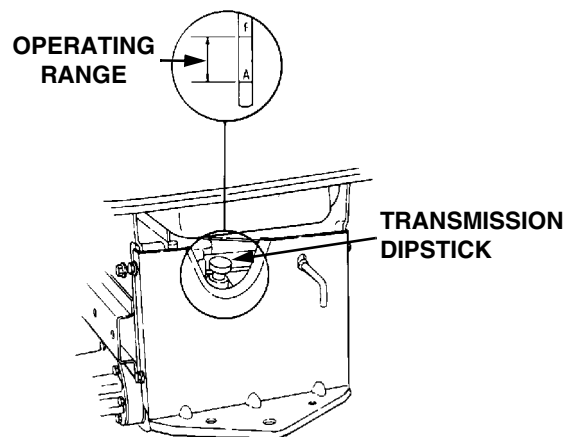

Figure 21
Check the oil level of the transmission case before each use to see that it is filled to the correct level. Before checking the transmission oil level, clean the area around the oil fill plug/dipstick to prevent debris from entering the transmission case. Always keep the oil level between the "FULL" and the "ADD" marks on the dipstick (See Figure 21). When checking the oil level, the dipstick must be withdrawn and wiped clean, then inserted all the way before being withdrawn for a true reading.
3. Remove the oil fill plug/dipstick from the oil fill port and **SLOWLY** pour oil into the oil fill port. Fill the transmission case until the oil level reaches the “FULL” mark on the dipstick (Refer to Figure 21).
- Remove the oil fill plug/dipstick from the oil fill port and SLOWLY pour oil into the oil fill port. Fill the transmission case until the oil level reaches the "FULL" mark on the dipstick (Refer to Figure 21).